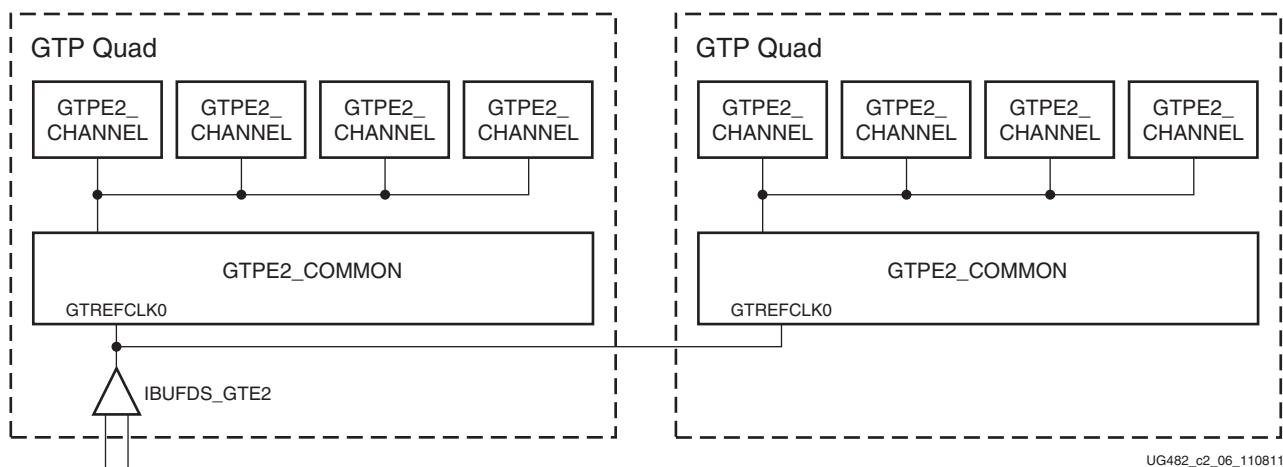

Figure 2-6: Two GTP Quads with a Single Shared Reference Clock
Figure 2-6 shows a single reference clock connected to two GTP Quads. The user connects the IBUFDS_GTE2 output (O) to the GTREFCLK0 input port of both GTPE2_COMMON primitive instances. Such a scenario is only possible in the largest Artix-7 device (XC7A200T-FFG1156) that contains east and west GTP Quads adjacent to each other.
When required, as is the case for the design in Figure 2-6, the Xilinx implementation tools make the necessary adjustments to the east/west routing shown in Figure 2-2, page 26, as well as any necessary pin swapping to the GTPE2_COMMON clock inputs to route the reference clocks between two Quads.